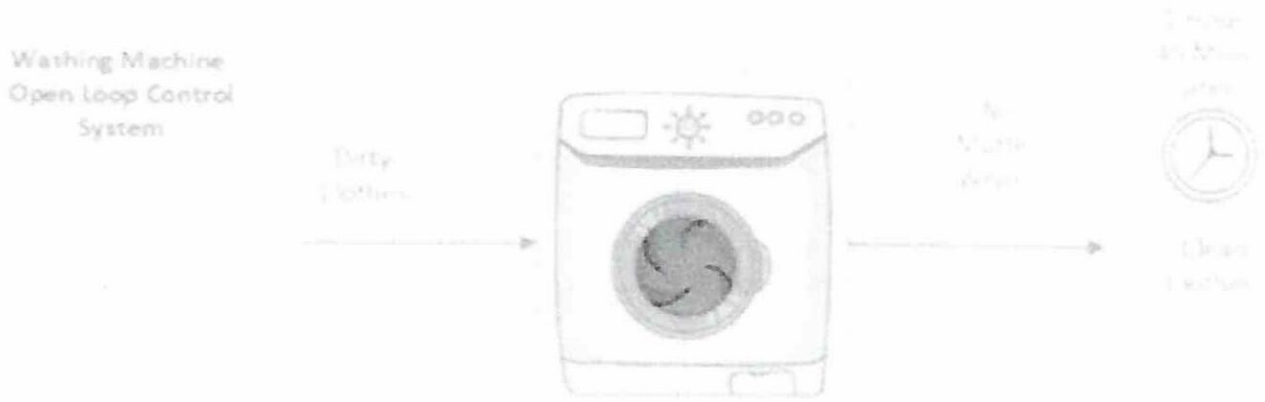

Figure Q1
**Q1** Based on **Figure Q1**, answer the following:
- (e) User plan to upgrade system in **Figure Q1** rather than use time baseline into a system that able monitor clothes cleanliness quality. Draw the function block diagram for new improvement above. (5 marks)